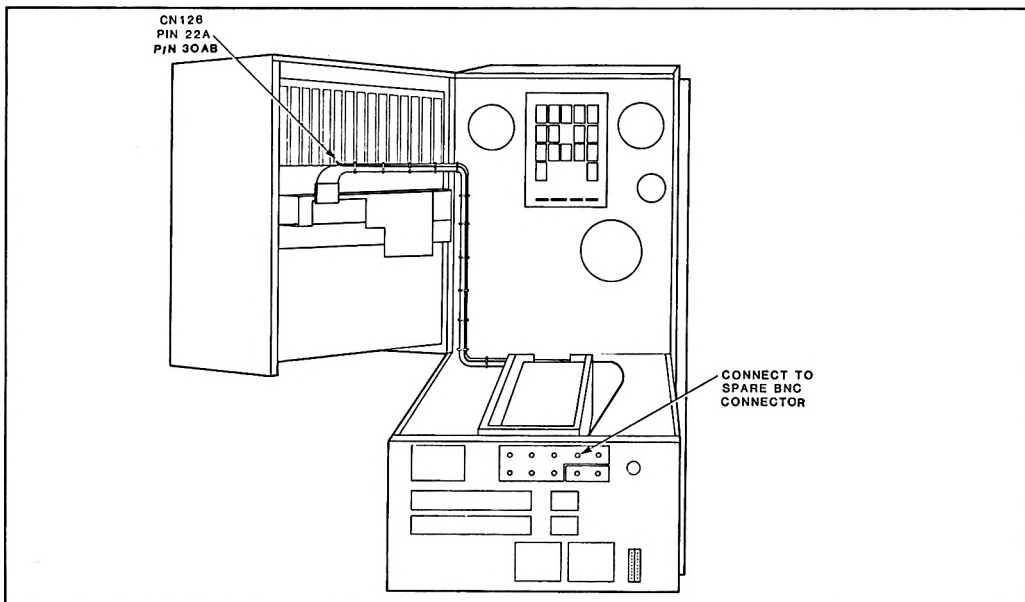

Figure 1
1. Swing the card cage open for access to the Mother-1 Board (See Figure 1.)
4. Dress the coax cable along existing cable routes as shown in Figure 1, then connect to spare BNC connector.